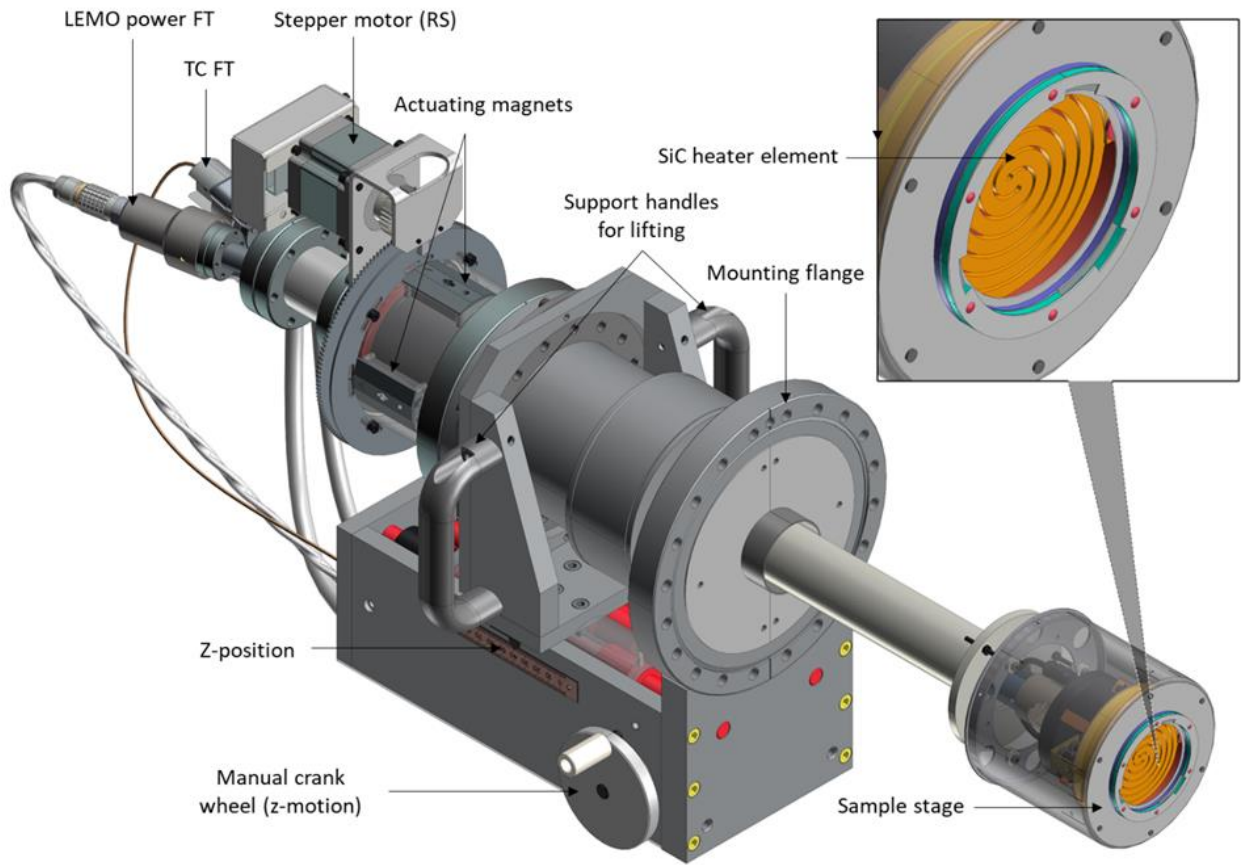

Fig. 3-3 Example of a substrate manipulator with a bayonet-style stage compatible with manual systems.
- Bayonet-style cup (Fig. 3-3) - compatible with the DCA manual transfer systems.